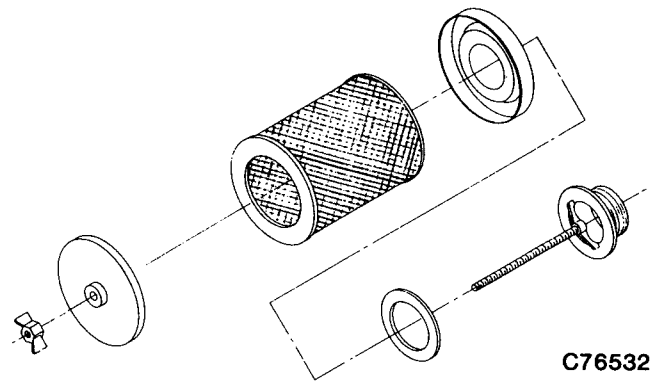

FIGURE 2-6. — DRY TYPE AIR FILTER
**Filter Element Life** — The element should be replaced after six (6) cleanings or if:
2. Pressure drop through a filter with a freshly cleaned element is below three (3) inches of water with the compressor running at full load – this would indicate a rupture or crack.
**AIR FILTER** (Figure 2-6) furnished as standard equipment on units without an enclosure is a washable element dry type filter. The air filter must receive proper maintenance if maximum service is to be obtained from the unit. Establishing adequate and timely filter service is **MOST IMPORTANT**. When the outside surface of the element appears to be evenly coated with dirt, it should be cleaned as follows: